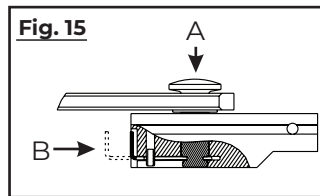

Fig. 15
5. Insert stud on arm into slider in track by pressing clip on backside of slider onto stud. (Fig. 15)